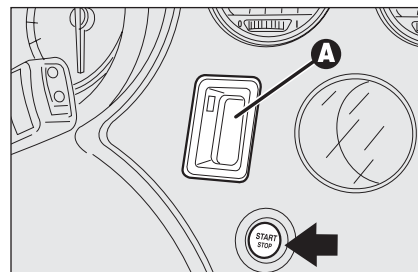

fig. 13
- ❑ electronic key reading device **A-fig. 13** (set near the steering wheel);